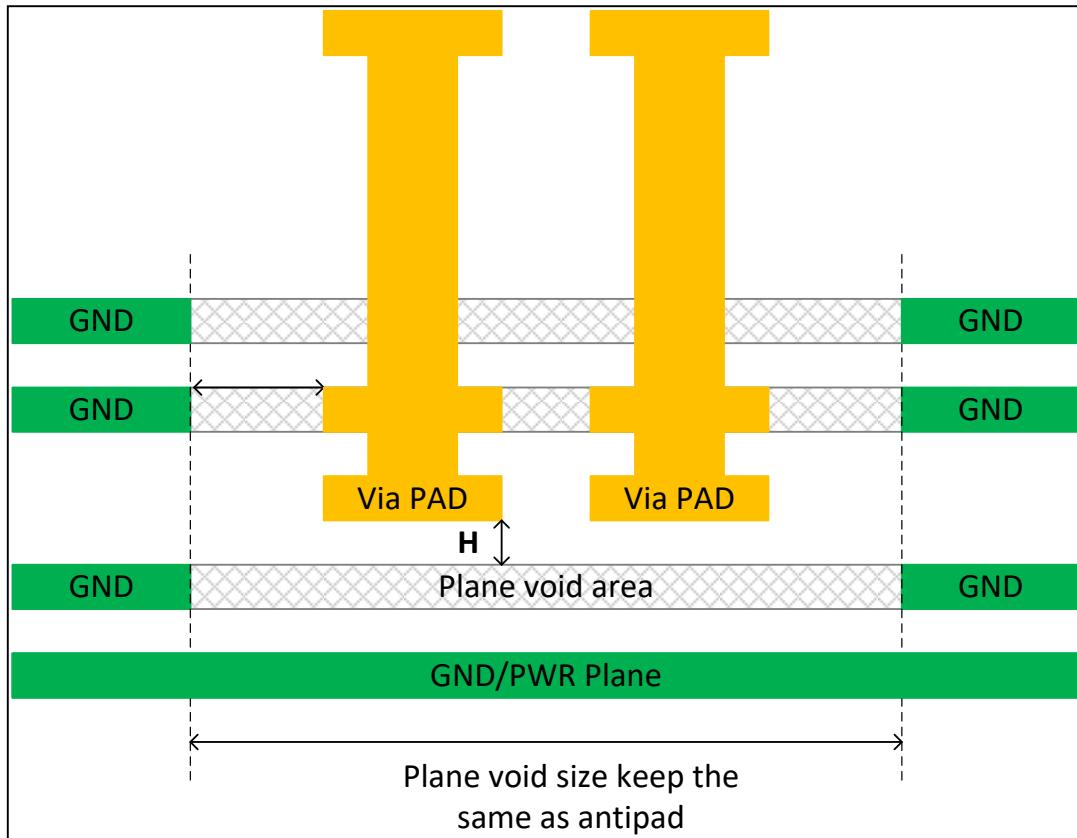

Figure 34: The Reference Layout of GND/PWR Plane for HDI Process
6. For HDI process, GND or PWR plane under via pads should be voided. Depending on the stack-up, at least the closest plane beneath via pads need to be voided as shown in Figure 34.